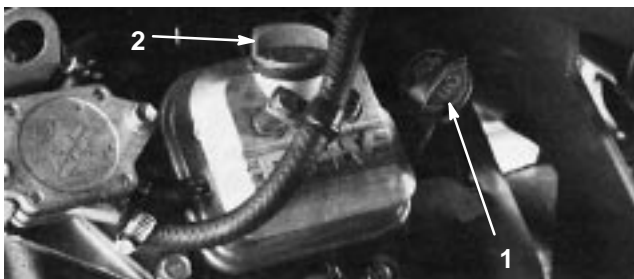

Figure 14
- Unscrew the dipstick and wipe it with a clean rag. Screw the dipstick into the tube and make sure it is seated fully (Fig. 14). Unscrew the dipstick out of the tube and check the oil level. If the oil level is low, remove the filler cap from the valve cover and add enough oil to raise the level to the Full mark on the dipstick.